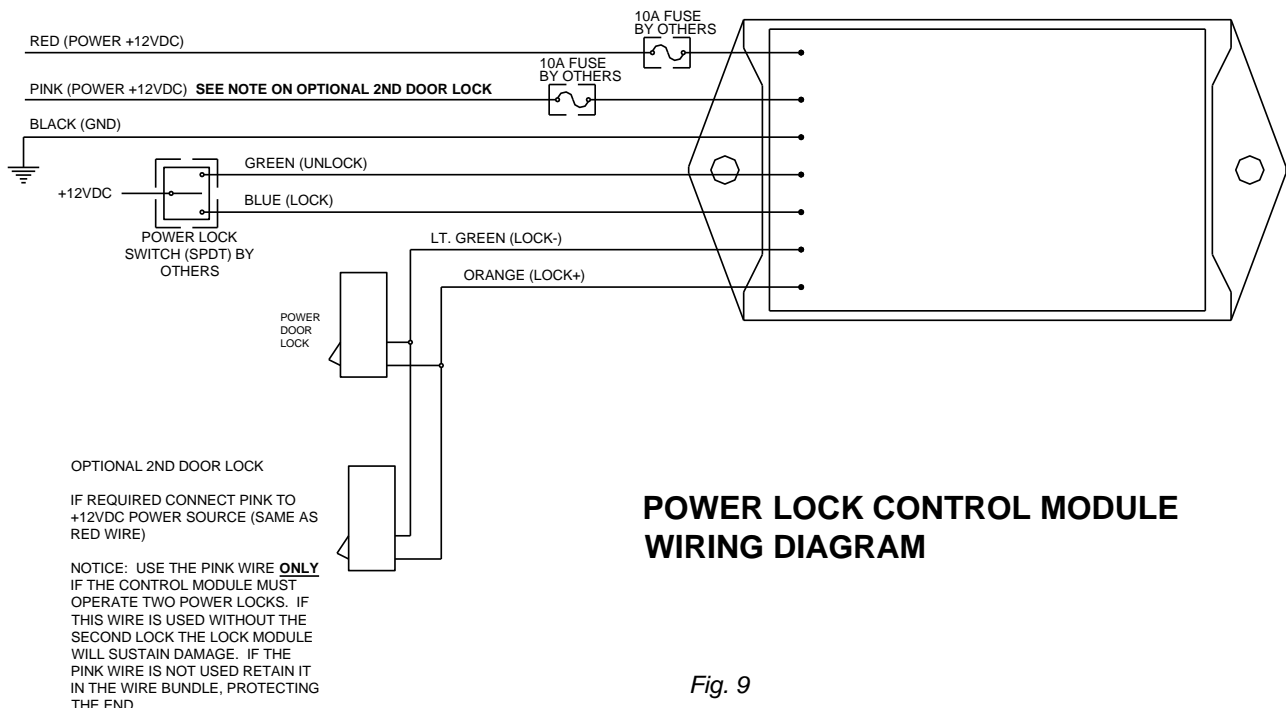

Fig. 9
- Mount the control module so that it is out of the way, mounting it just behind the track is recommended. Route the power lock wires to the power door control module using care to protect the wires. Connect the light green and orange wire from the power lock to the light green and orange wire on the power door control module. If two locks are used connect all wires together. See wiring diagram (Fig. 9).